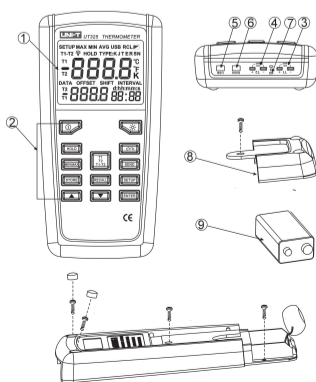

Figure 1. Components
- Figure 1 and Table 3 for components;